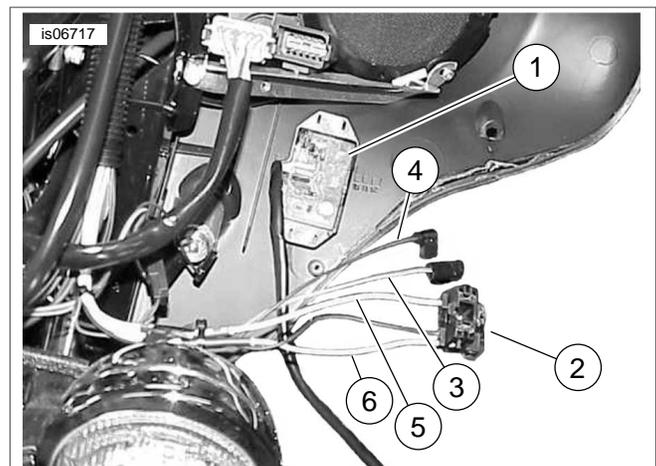

**Figure 8. Transmitter Mounting Near Fork Tube (FLHR)**
3. See Figure 8. Mount the transmitter to the right side of the frame near the fork tube.